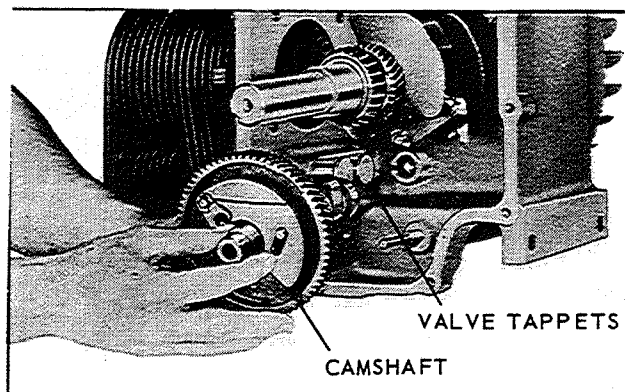
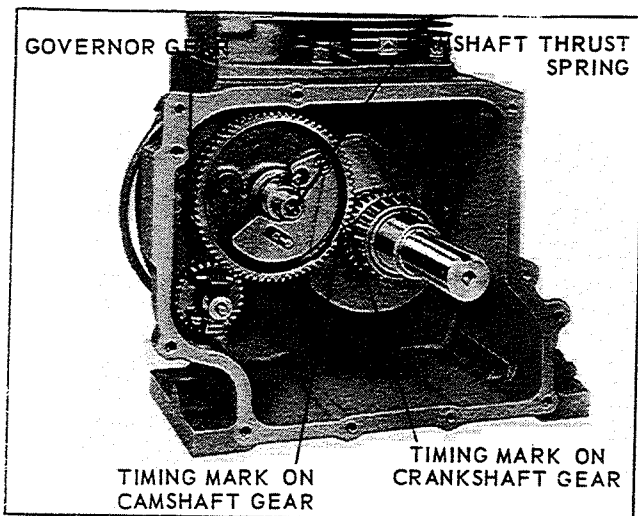

Fig. 40
Fig. 41
*Caution:* Be sure *timing marks on crankshaft and camshaft gear, Fig. 41, remain correctly mated when end of camshaft is pressed into bearing hole of gear cover.*
### CAMSHAFT and VALVE TAPPETS (Fig. 40) TIMING MARKS (Fig. 41)
To prevent tappets from falling out and becoming damaged when camshaft is removed, turn crankcase over on its side as shown in Fig. 40. Push tappets inward to clear cam lobes and remove camshaft.
*In reassembly:* Tappets must be inserted in crankcase before camshaft is assembled. Mount camshaft so that *timing mark* on cam gear matches up with *marked gear tooth* on crankshaft gear. See Fig. 41. If valve timing is off, engine will not function properly or may not run at all. Be sure *thrust spring* is in place in end of camshaft, before mounting gear cover.